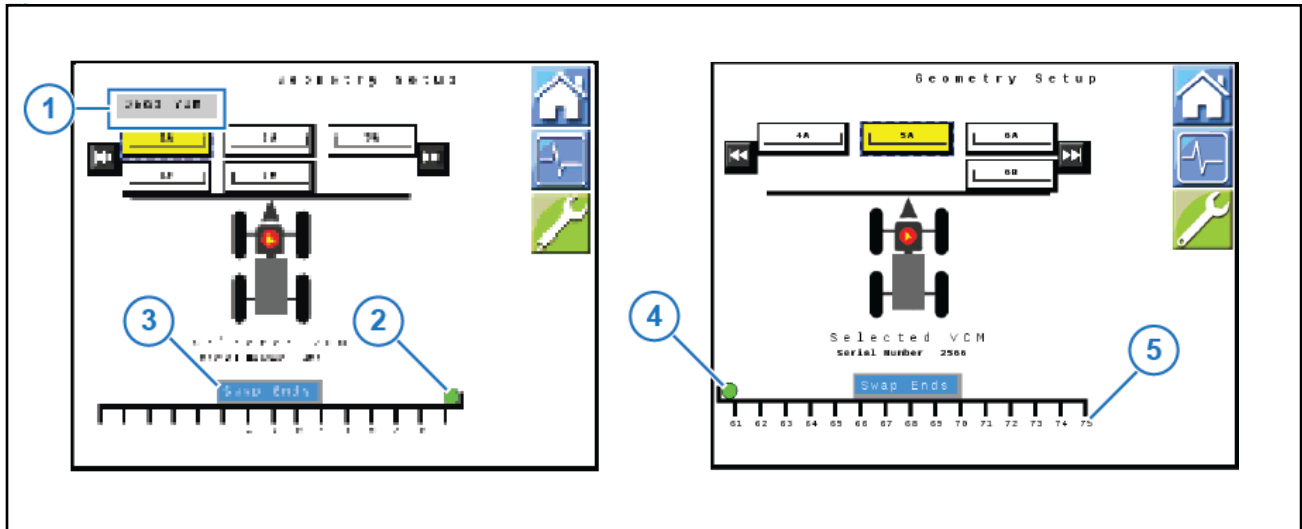

Figure 19: Geometry Setup
2. If there are two VCMs on one section, you can change their positions. A Swap VCMs icon will show at the top of the screen (Figure 19, Item 1).
3. If the orientation on a VCM (Figure 19, Item 2) is incorrect, select Swap Ends (Figure 19, Item 3) to change which end the VCM (Figure 19, Item 4) is on.
5. Make sure that the number of nozzles controlled by each VCM (5) matches your machine.